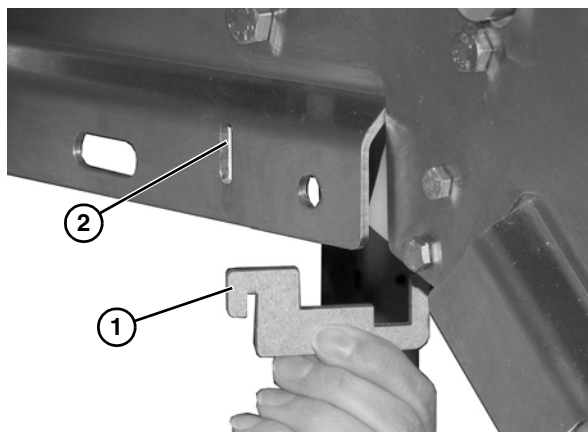

Figure 21
1. Install belt return mounting bracket (Figure 21, item 1) into slotted frame hole (Figure 21, item 2).